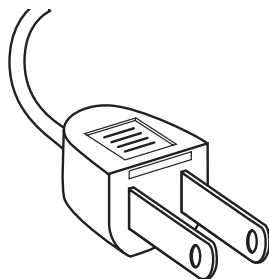

Figure 1.
4. This appliance has a polarized plug (one blade is wider than the other). See figure 1. To reduce the risk of shock, this plug is intended to fit in a polarized outlet one way only. If the plug does not fit fully in the outlet, reverse the plug. If it still does not fit, contact a qualified electrician. **Do Not** attempt to bypass this safety feature.
1. To replace the fuse, first turn the unit off and unplug it from the wall. Locate the door on top of the plug. Figure 1.